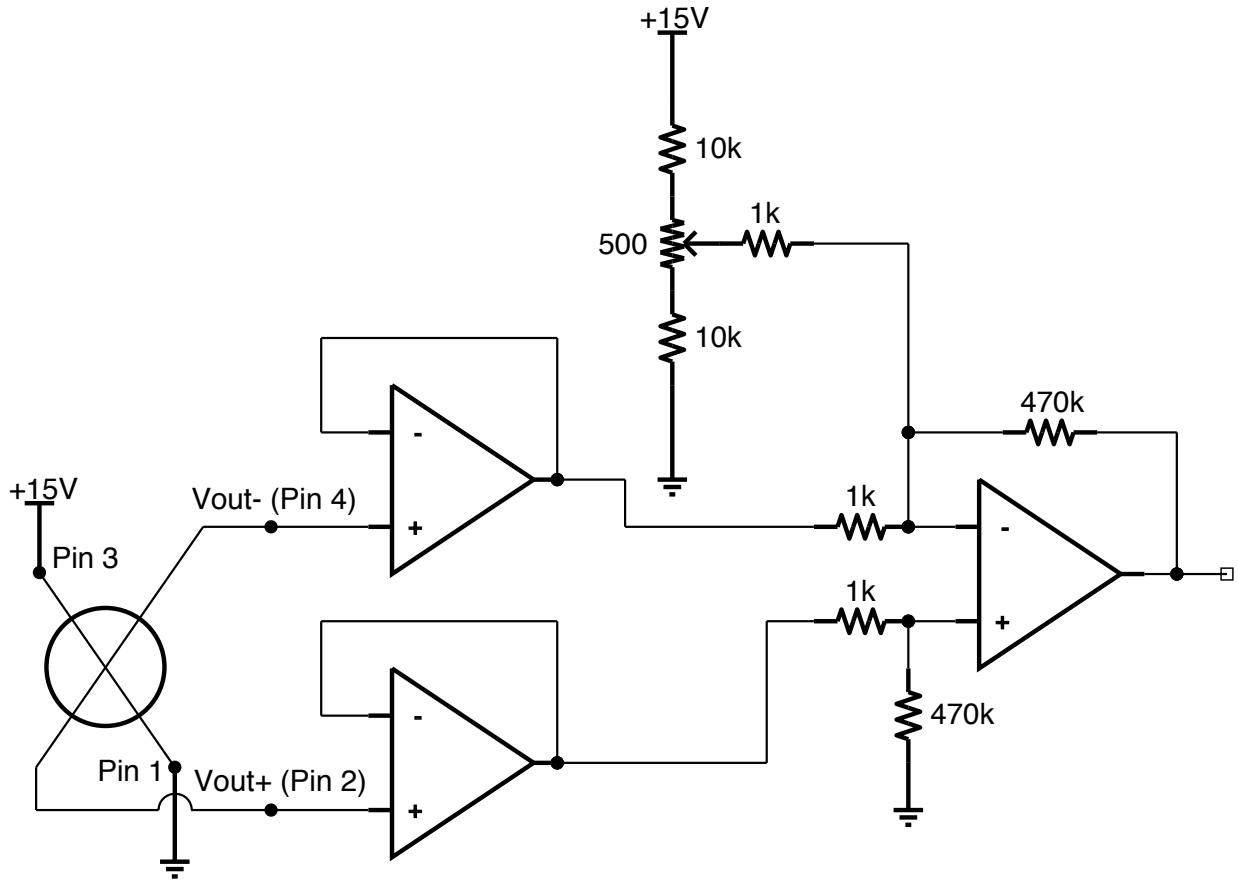

Figure 3: Pressure sensor and amplifier circuit to build.
1. Build the circuit in Fig. 3 on a breadboard. When connecting the differential pressure sensor, check the pinout diagram of the pressure sensor on the attached datasheet.
2. Connect the output of the circuit to your DAQ board, with the ground switch set to (FS). In the DAQ Assistant Express VI, select Continuous sampling, 100 Samples, 1 kHz rate, and max/min input voltages of  $\pm 10$  V. Make a waveform chart in LabView. Why is the noise so much lower in these than in the ECG?